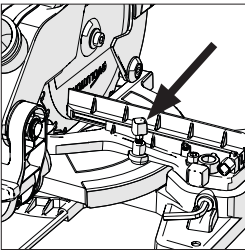

Fig. 18
- Loosen the mitre locking screw (**Fig. 18**) by turning it anti-clockwise.